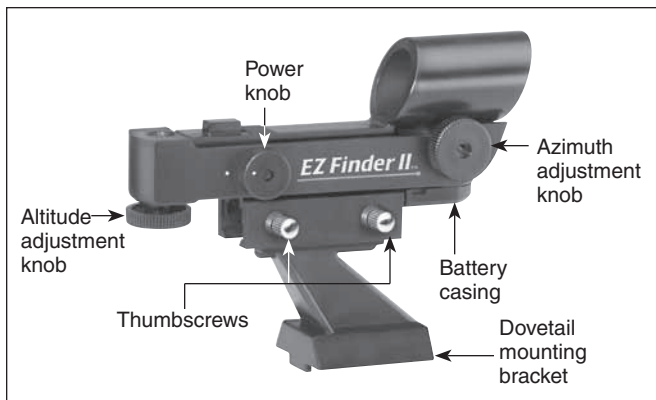

Figure 11. The EZ Finder II reflex sight.
1. Insert a small, flat-blade screwdriver into the notch in the battery casing and gently pry it off (**Figure 11**).
Turn the power knob (see **Figure 11**) clockwise until you hear the "click" indicating that power has been turned on. Look through the back of the reflex sight with both eyes open to see the red dot. Position your eye at a comfortable distance from the back of the sight. In daylight you may need to cover the front of the sight with your hand to be able to see the dot, which is purposefully quite dim. The intensity of the dot is adjusted by turning the power knob. For best results when stargazing, use the dimmest possible setting that allows you to see the dot without difficulty. Typically a dimmer setting is used under dark skies and a bright setting is used under light-polluted skies or in daylight.
Without moving the main telescope, use the EZ Finder II's azimuth (left/right) and altitude (up/down) adjustment knobs (see **Figure 11**) to position the red dot on the object in the eyepiece. When the red dot is centered on the distant object, check to make sure that the object is still centered in the telescope's field of view. If not, re-center it and adjust the EZ Finder II's alignment again. When the object is centered in BOTH the eyepiece and the EZ Finder's red dot, the EZ Finder II is properly aligned with the telescope. Once aligned, the